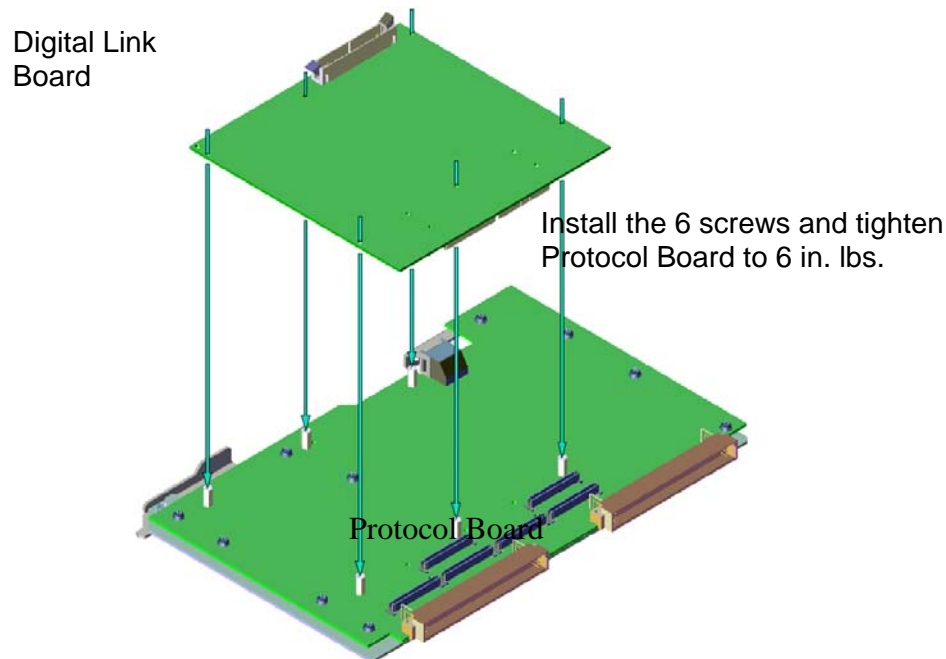

Figure 1: Attach Digital LSS board to Protocol Processor
7. Install the Digital Link Board to the new Protocol Processor using T8 screws. Tighten to 6 in-lbs. See Figure 1.